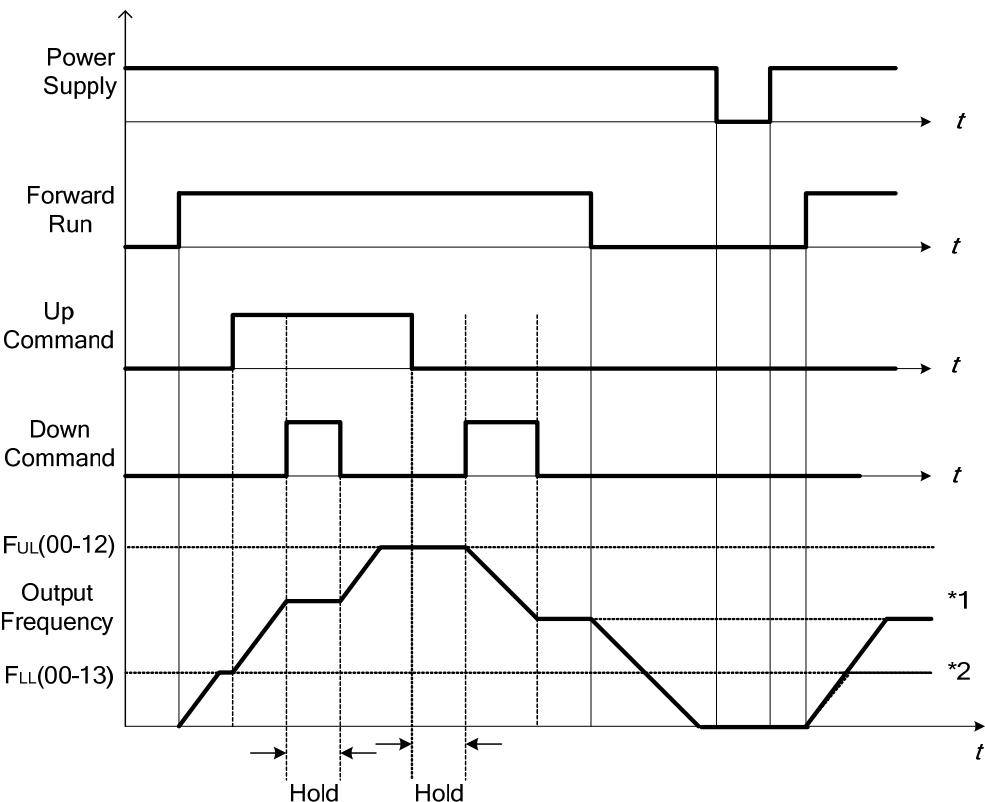

Figure 4.3.20 Up / Down command timing diagram
(10) 03-0X =08 : UP frequency command
(11) 03-0X =09 : Down frequency command
- ①. When only the UP or DOWN command function is programmed to the digital inputs.
- ②. When both DOWN command and Inhibit Acceleration/deceleration command are activated simultaneously
- ③. When both UP command and Inhibit Acceleration/deceleration command are activated simultaneously.
- For the examples of UP/DOWN control wiring and operation, please refer to figure 4.3.19 and figure 4.3.20 .